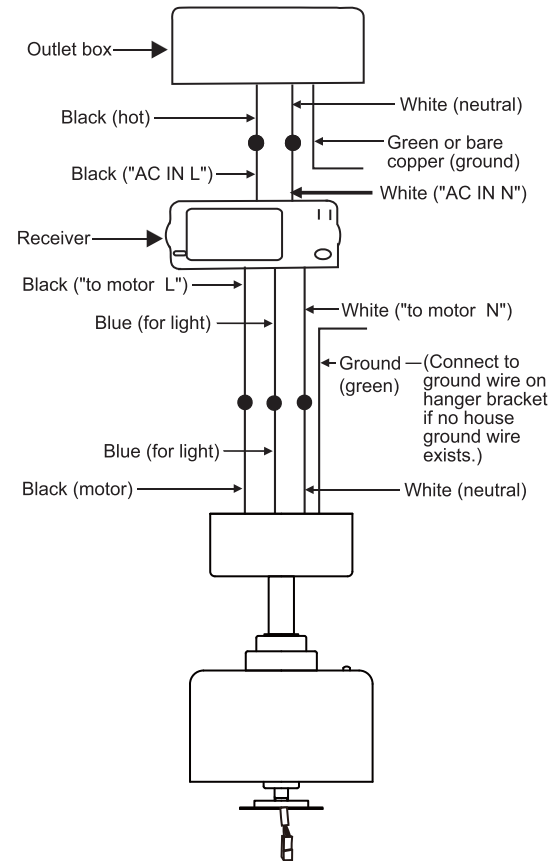

Fig. 14
Step 2. Motor to Receiver Electrical Connections: (**Fig. 14**) Connect the black wire from the fan to the black wire marked "TO MOTOR L" on the receiver. Connect the white wire from the fan to the white wire marked "TO MOTOR N" on the receiver. Connect the blue wire from the fan to the blue wire marked "FOR LIGHT" on the receiver. Secure all the wire connections with the plastic wire nuts provided.
Step 3. (**Fig. 14**) Receiver to House Supply Wires Electrical Connections: Connect the black (hot) wire from the ceiling to the black wire marked "AC in L" from the receiver. Connect the white (neutral) wire from the ceiling to the white wire marked "AC in N" from the Receiver. Secure the wire connections with the plastic wire nuts provided.
Step 4. (**Fig. 14**) If your outlet box has a ground wire (green or bare copper) connect it to the fan ground wires; otherwise connect the hanging bracket ground wire to the mounting bracket. Secure the wire connection with a plastic nut provided. After connecting the wires, spread them apart so that the green and white wires are on one side of the outlet box and black and blue wires are on the other side. Carefully tuck the wire connections up into the outlet box.